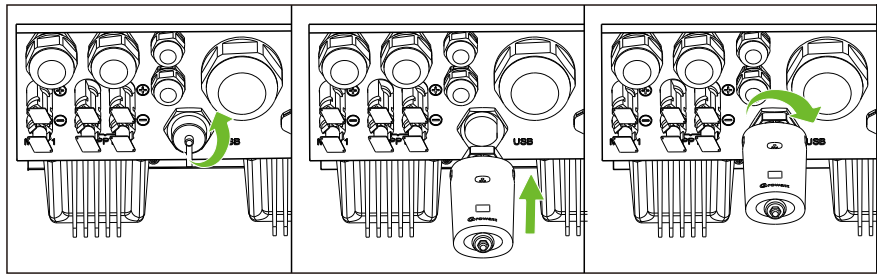

Fig.6.21 USB Connection
- 2> As shown in Fig 6.21, insert the WiLAN-X2 module into the USB interface, and the LED indicator of the WiLAN-X2 module will be on.
- 3> As shown in Fig 6.21, make sure that the is facing frontwards as the inverter has been wall-mounted, insert the monitoring module into the USB interface, and tighten the lock.